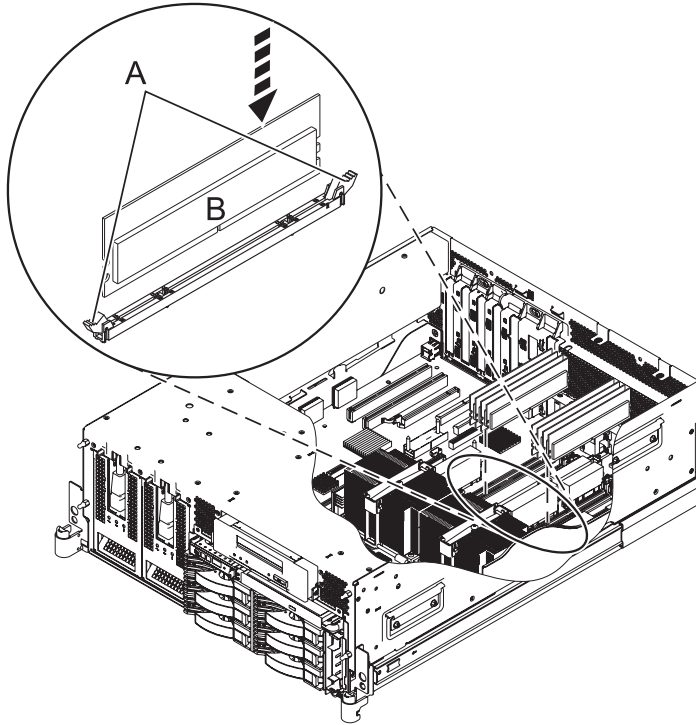

Figure 17. Replacing a memory module
- Ensure that the connector is ready to receive the memory module. Remove the memory module filler, if one is present, by pushing the tabs **(A)** out and then down, as shown in Figure 17 on page 28. The lever action of the tabs forces the memory module filler out of the connector.